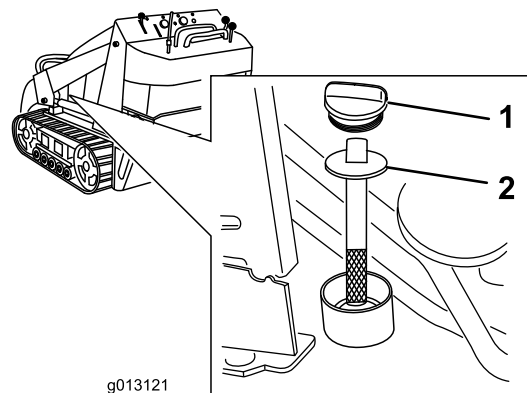

Figure 60
5. Clean the area around the filler neck of the hydraulic tank (Figure 60).
6. Remove the filler-neck cap and check the fluid level on the dipstick (Figure 60).